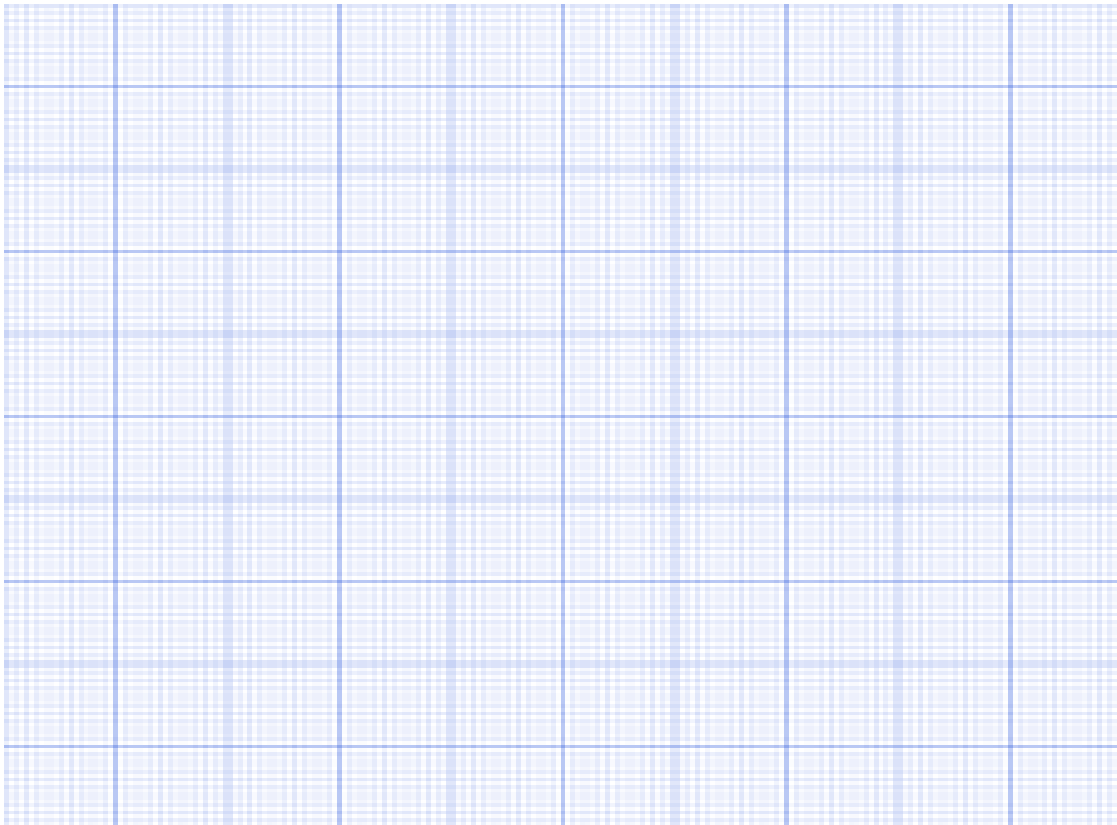
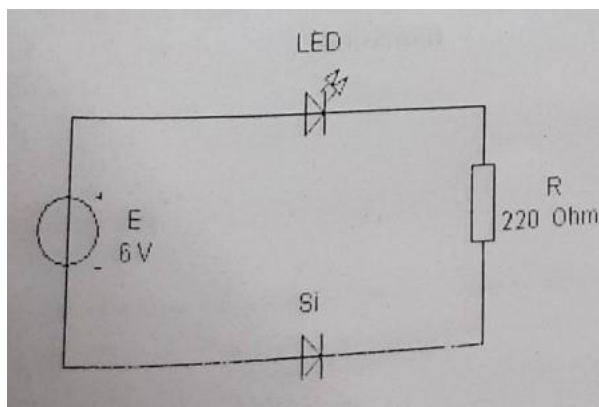

Figure 4.2
Figure 4.3
- e) Using the table 4.1 sketch the curve I_D vs. V_D on the graph fig.4.2. Point the I_D and V_D of “good brightness” from the part 1.(c) and draw a vertical line from the intersection point . Area on right of lines is “good brightness”.
- f) Record the measured value of resistance and construct the circuit of fig.4.3. be sure that both diodes are connected properly.
- h) Energize the circuit for both conditions of silicon diode. (as shown in fig.4.3 and reversed). If the LED is "on" with "good brightness", measure V_D and V_R and calculate I_D . Compare with the area "good brightness" on graph of fig.4.2.